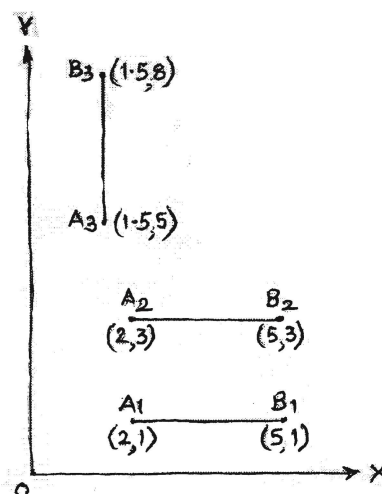

Fig. Q.4 (b)
- b) Discuss 3-position graphical synthesis of 4-bar mechanism for body guidance. Synthesize a 4-bar mechanism to guide a rod AB through the three consecutive positions  $A_1B_1$ ,  $A_2B_2$  &  $A_3B_3$  as shown in Fig. Q.4 (b). [5]